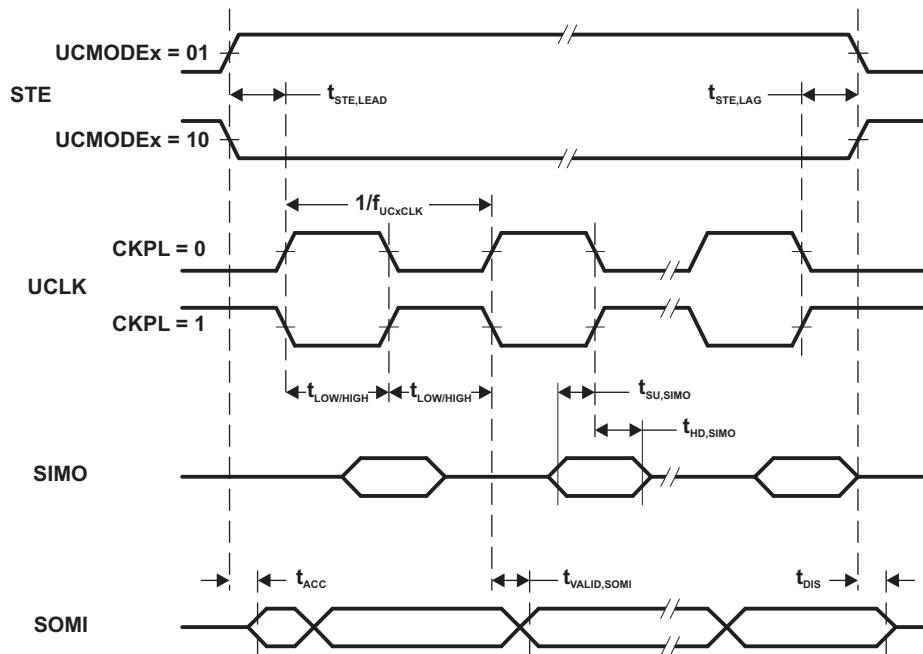
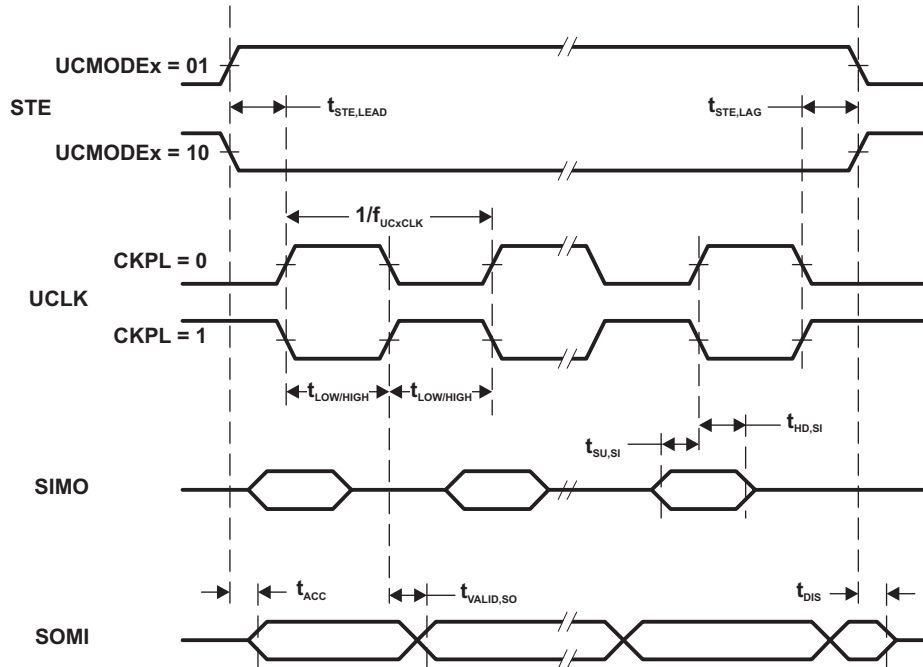

Figure 5-15. SPI Slave Mode, CKPH = 0
Figure 5-16. SPI Slave Mode, CKPH = 1
- (2) Specifies the time to drive the next valid data to the SIMO output after the output changing UCLK clock edge. See the timing diagrams in Figure 5-15 and Figure 5-16.
- (3) Specifies how long data on the SIMO output is valid after the output changing UCLK clock edge. Negative values indicate that the data on the SIMO output can become invalid before the output changing clock edge observed on UCLK. See the timing diagrams in Figure 5-15 and Figure 5-16.
- (1) $f_{UCxCLK} = 1/2t_{LO/HI}$ with $t_{LO/HI} = \max(t_{VALID,MO(Master)} + t_{SU,SI(eUSCI)}, t_{SU,MI(Master)} + t_{VALID,SO(eUSCI)})$. For the master parameters $t_{SU,MI(Master)}$ and $t_{VALID,MO(Master)}$ refer to the SPI parameters of the attached slave.
- (2) Specifies the time to drive the next valid data to the SOMI output after the output changing UCLK clock edge. Refer to the timing diagrams in Figure 5-15 and Figure 5-16.
- (3) Specifies how long data on the SOMI output is valid after the output changing UCLK clock edge. Refer to the timing diagrams in Figure 5-15 and Figure 5-16.